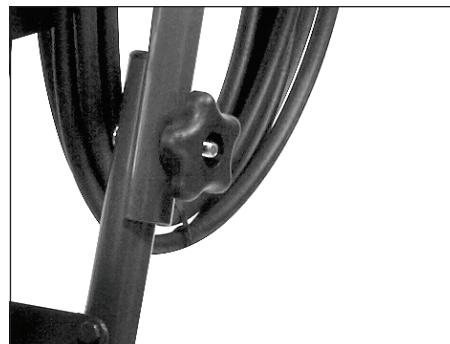

Figure 1 – Assemble Handle
1. Slide the handle assembly over the lower legs of the cart base. Use the supplied nuts and bolts to secure the handle to the legs. See Figure 1.